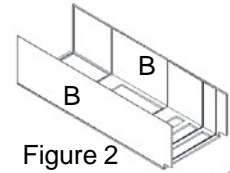
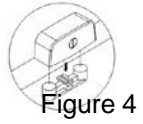

Figure 2
Figure 4
2. Installing the Side Panels (Figure 2): Insert right and left side panels (B) into the grooves of the face frame (A) and align the cam lock connectors (Figure 2). Lock the cam with a screwdriver by turning the screw 180° degrees clockwise (Figure 4).